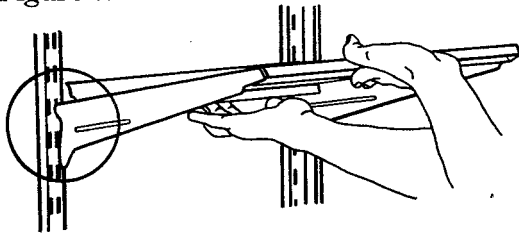

Figure 7.
- Insert metal hooks at back of shelf into desired slot in metal track on back wall of refrigerator. See Figure 7.